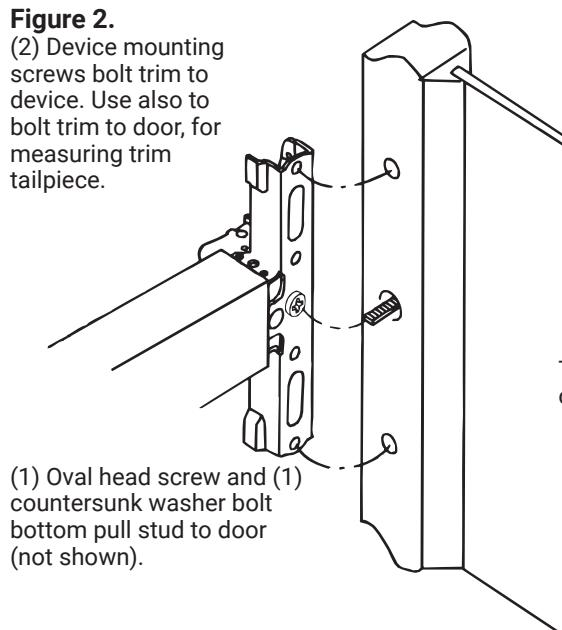

**Figure 1.**
7. With trim unlocked (tailpiece turning when the thumbturn is rotated or the thumbpiece is depressed), cut trim tailpiece as shown in **Figure 1.**